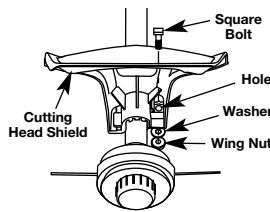

Fig. 8
3. Put the washer on the bolt, then screw the wing nut onto the bolt and tighten. Figure 8 shows the installation process from underneath the unit.